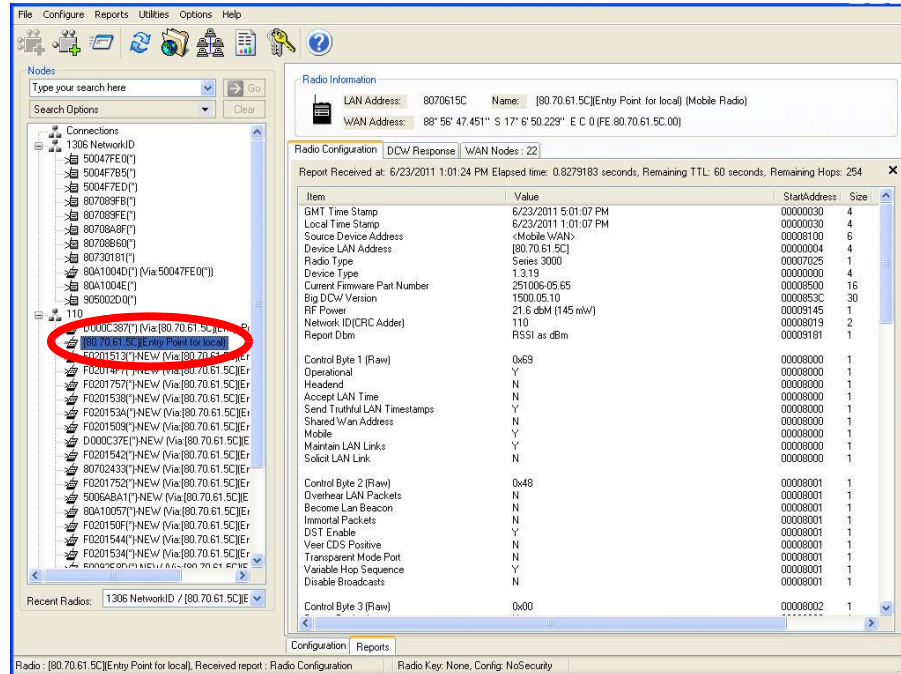

Figure 2 - 8. Gridstream S4SBR's LAN Address Appears in the Nodes Pane
5. Highlight the new Gridstream S4SBR as shown in Figure 2 - 8, and click **Reports | Configuration | Radio** to verify that you can communicate with the Gridstream S4SBR.